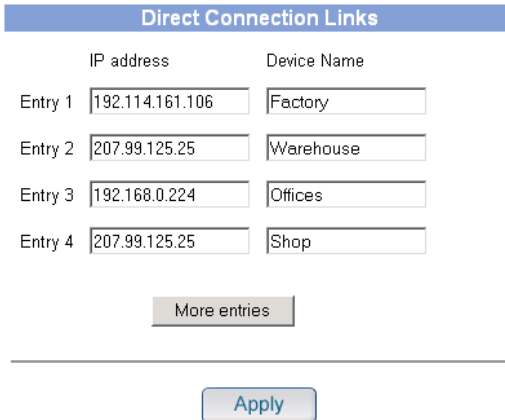

Figure 2 The Direct Connections Links page
2. Click Direct SmartIP Links. The Direct Connections Links page opens. See Figure 2.